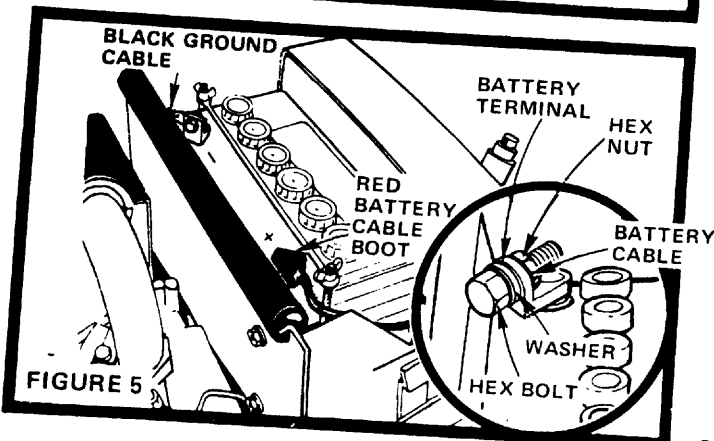

FIGURE 5
- f. Place a Flat Washer over the end of a Hex Bolt. Secure RED Battery Cable to Positive (+) Battery Terminal with a Hex Bolt (Washer) and Hex Nut (Fig. 5). Tighten Nut securely. Place Boot over Terminal.
- g. Place remaining Flat Washer over the end of the remaining Hex Bolt. Secure BLACK Ground Cable to Negative (-) Battery Terminal with Hex Bolt (Washer) and Hex Nut (Fig. 5). Tighten Nut securely.